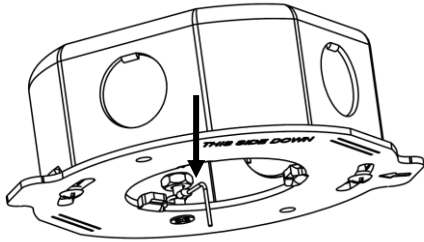

Figure 4 – Method A
- A) After fastening the Mounting Plate to the Junction Box, thread the 12mm screw through the hole location shown in *Figure 4*. Then, thread the tether eyelet through the top end of the 12mm screw and secure eyelet with the supplied nut by tightening the nut on top of the eyelet. Method A is recommended for easier installation of the fixture.